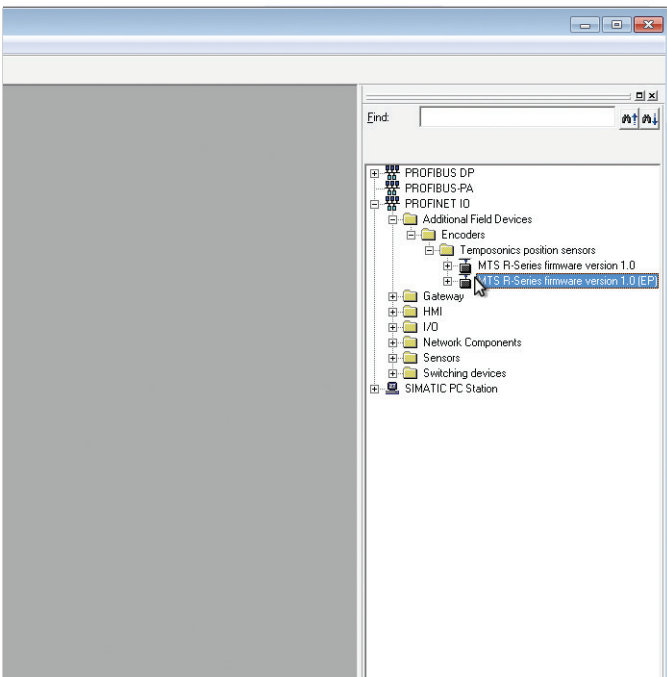

Fig. 45: Select Encoder profile 4.1 (source: Siemens)
1. Select the Encoder profile 4.1 from the directory displayed on the right (Fig. 45).